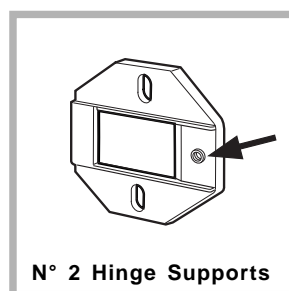

Fig. 1
- Mount the hinge supports onto the face of the machine, positioning the hole indicated by the arrow in fig. 1 towards the inside of the face and using the type **C** screws.